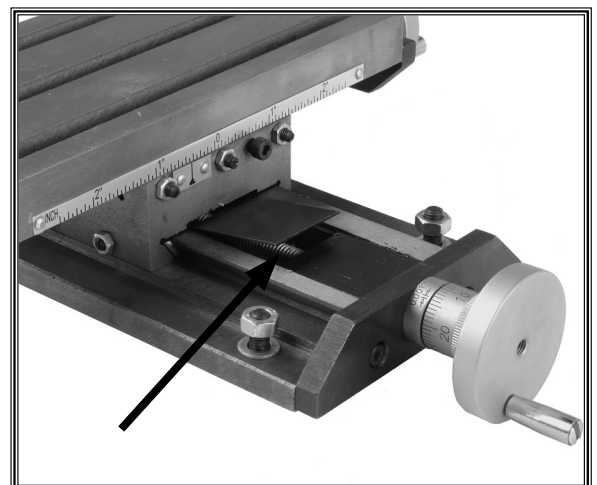

Figure 28. Crossfeed leadscrew.
- Crossfeed leadscrew (Figure 28)